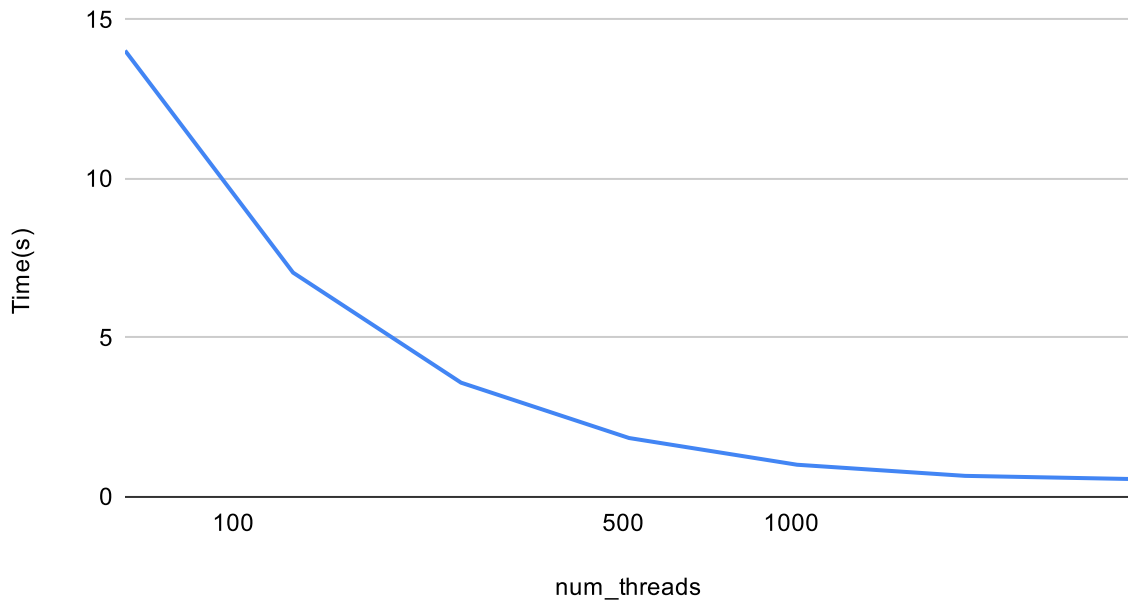

Figure 1: Time vs Number of Threads (Logarithmic Scale)
- We observe in Figure 1 that the with increase in  $t$ , we achieve massive speedup and improvement of program performance times.